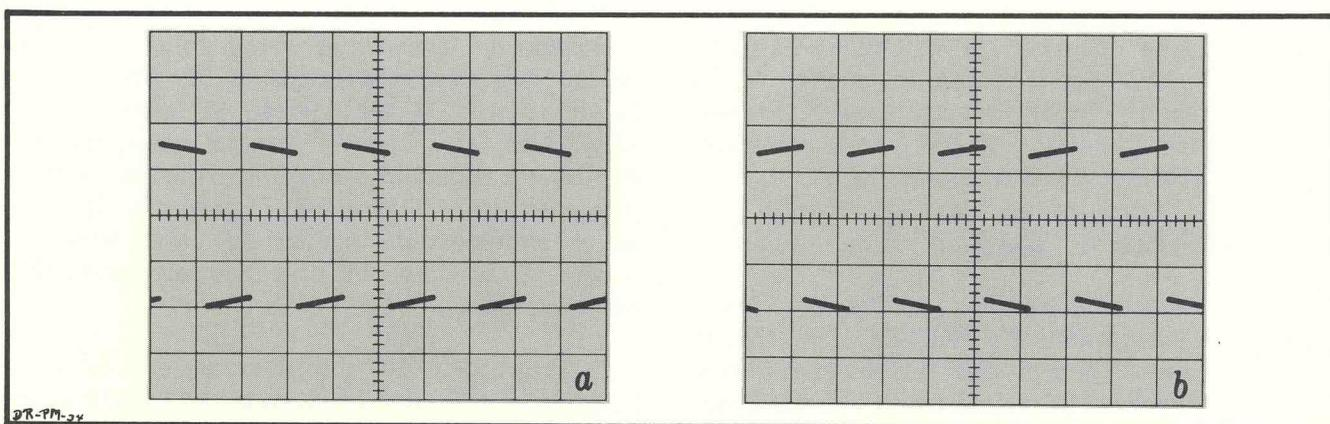

Fig. 4-2. (a) Low-frequency distortion caused by attenuation in X10-amplifier. (b) Waveform distortion from low-frequency overcompensation in X10-amplifier.
Distortion can be divided into two categories: (1) low-frequency distortion, illustrated in Fig. 4-2 and (2) high-frequency distortion, illustrated in Fig. 4-3.
(1) Any low-frequency distortion in the waveform will be produced by the X10 amplifier.
Low-frequency attenuation will produce the type of distortion illustrated in Fig. 4-2(a). This type of distortion can be caused by cathode and screen-bypass capacitors, and by coupling capacitors. Before attempting any component replacement, however, be sure to check the adjustment of the Low Freq. Adj. control (R6182), as explained in the Calibration Procedure.
Over-compensation of low frequencies is illustrated in Fig. 4-2(b). This condition is pro-